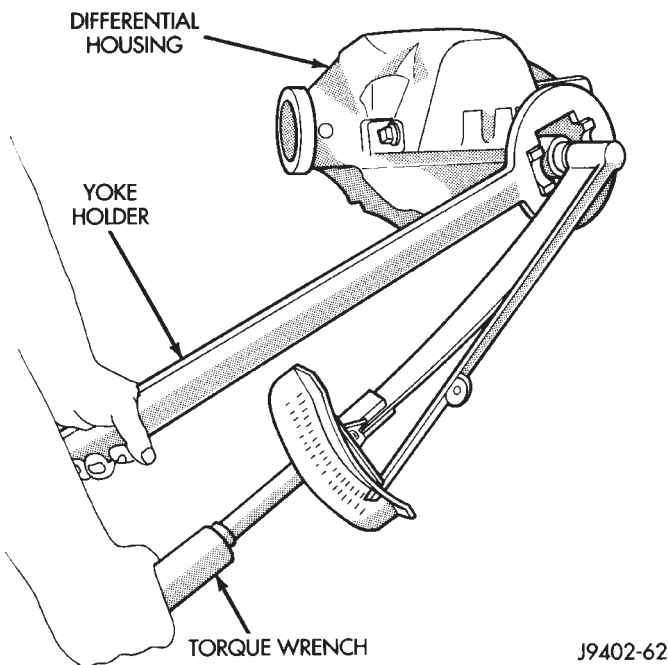

Fig. 34 Tighten Pinion Nut
(10) Hold pinion yoke with Yoke Holder 6719 and tighten shaft nut to 597 N·m (440 ft. lbs.) (Fig. 34). Rotate pinion shaft several revolutions to ensure the bearing rollers are seated.